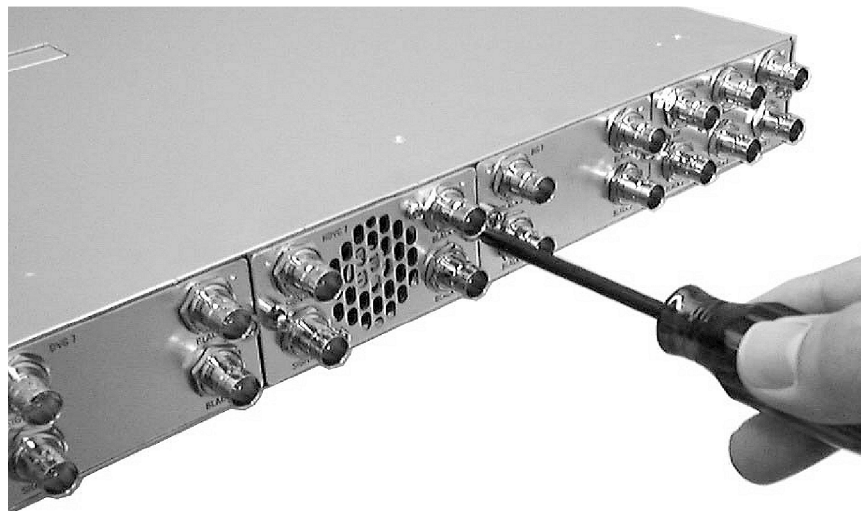

Figure 8: Securing the module
5. Tighten the two screws to secure the module to the mainframe. (See Figure 8.)